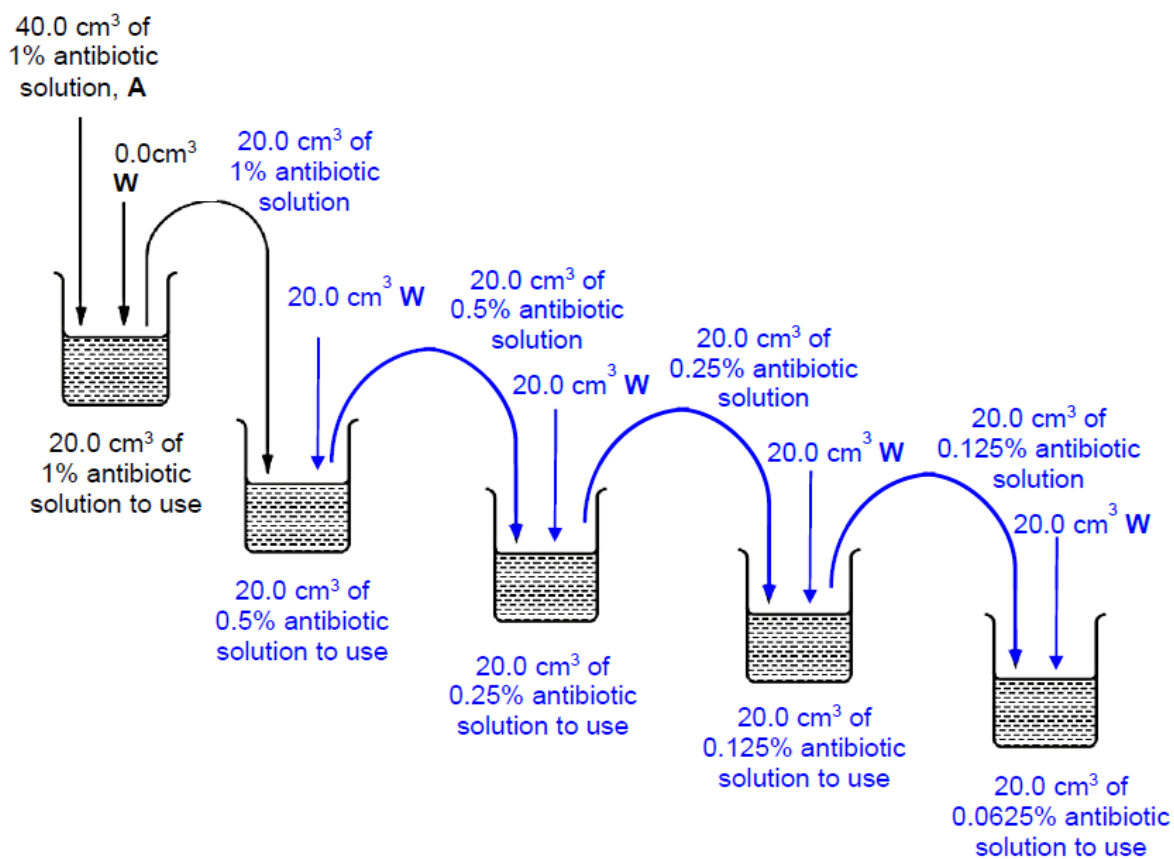

Fig. 1.1
Fig. 1.1 shows the first two beakers you will use to make your serial dilution.
- (i) Complete Fig. 1.1 by drawing as many extra beakers as you need for your serial dilution.